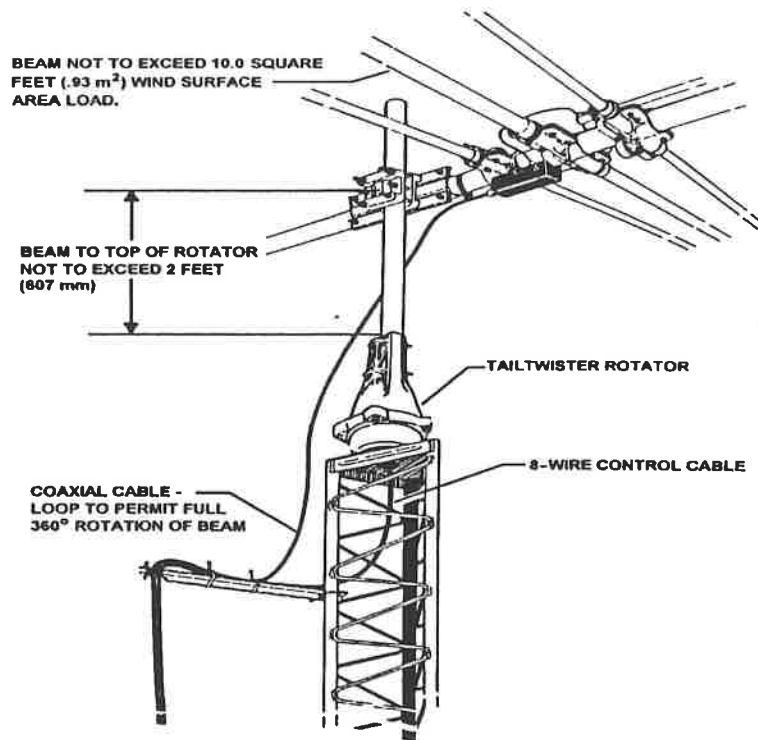

Figure 5
Referring to Figures 5, 6, and 7, an outside tower or pole mount is made in the same manner except that the rotator is fastened by four (4) bolts only (not six) to the Lower Mast Support, PN 5146710. Since the eccentricity of the rotator turning in reference to the tower is no longer important, the shimming procedure is not necessary. The four (4) screws must be torqued to the same specification and the 8-wire cable securely fastened. The lower mast should be pinned with the 5/26"-18 x 4" bolt as shown in Figure 6.
The stock Taittwister T2X is intended to mount on the base plate inside of the tower. However, in some instances, outside tower or mast mounting is desired as per Figures 5 and 6. This kit, P/N 5146710 contains a heavy-duty lower mast support and the necessary hardware to facilitate mounting the T2X on top of a tower stub or mast.